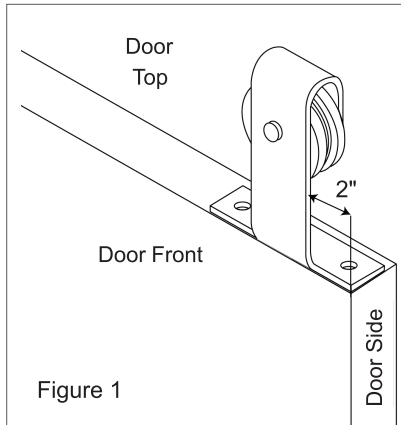

Figure 1
1. Place the hanger on the top edge surface of the door, with the vertical front of the hanger 2" from the edge of the door side and flush with the door front. Ensure the front of the hanger and the front of the door are facing the same direction (Figure 1).
1. To determine where the track should be installed (Figure 1), first measure the height of the door (A), then add 2-7/8" to the door length. 1/2" will be for the clearance between the bottom edge of the door and the floor (B). 2-3/8" will be from the top edge of the door to the center of the hole (C)